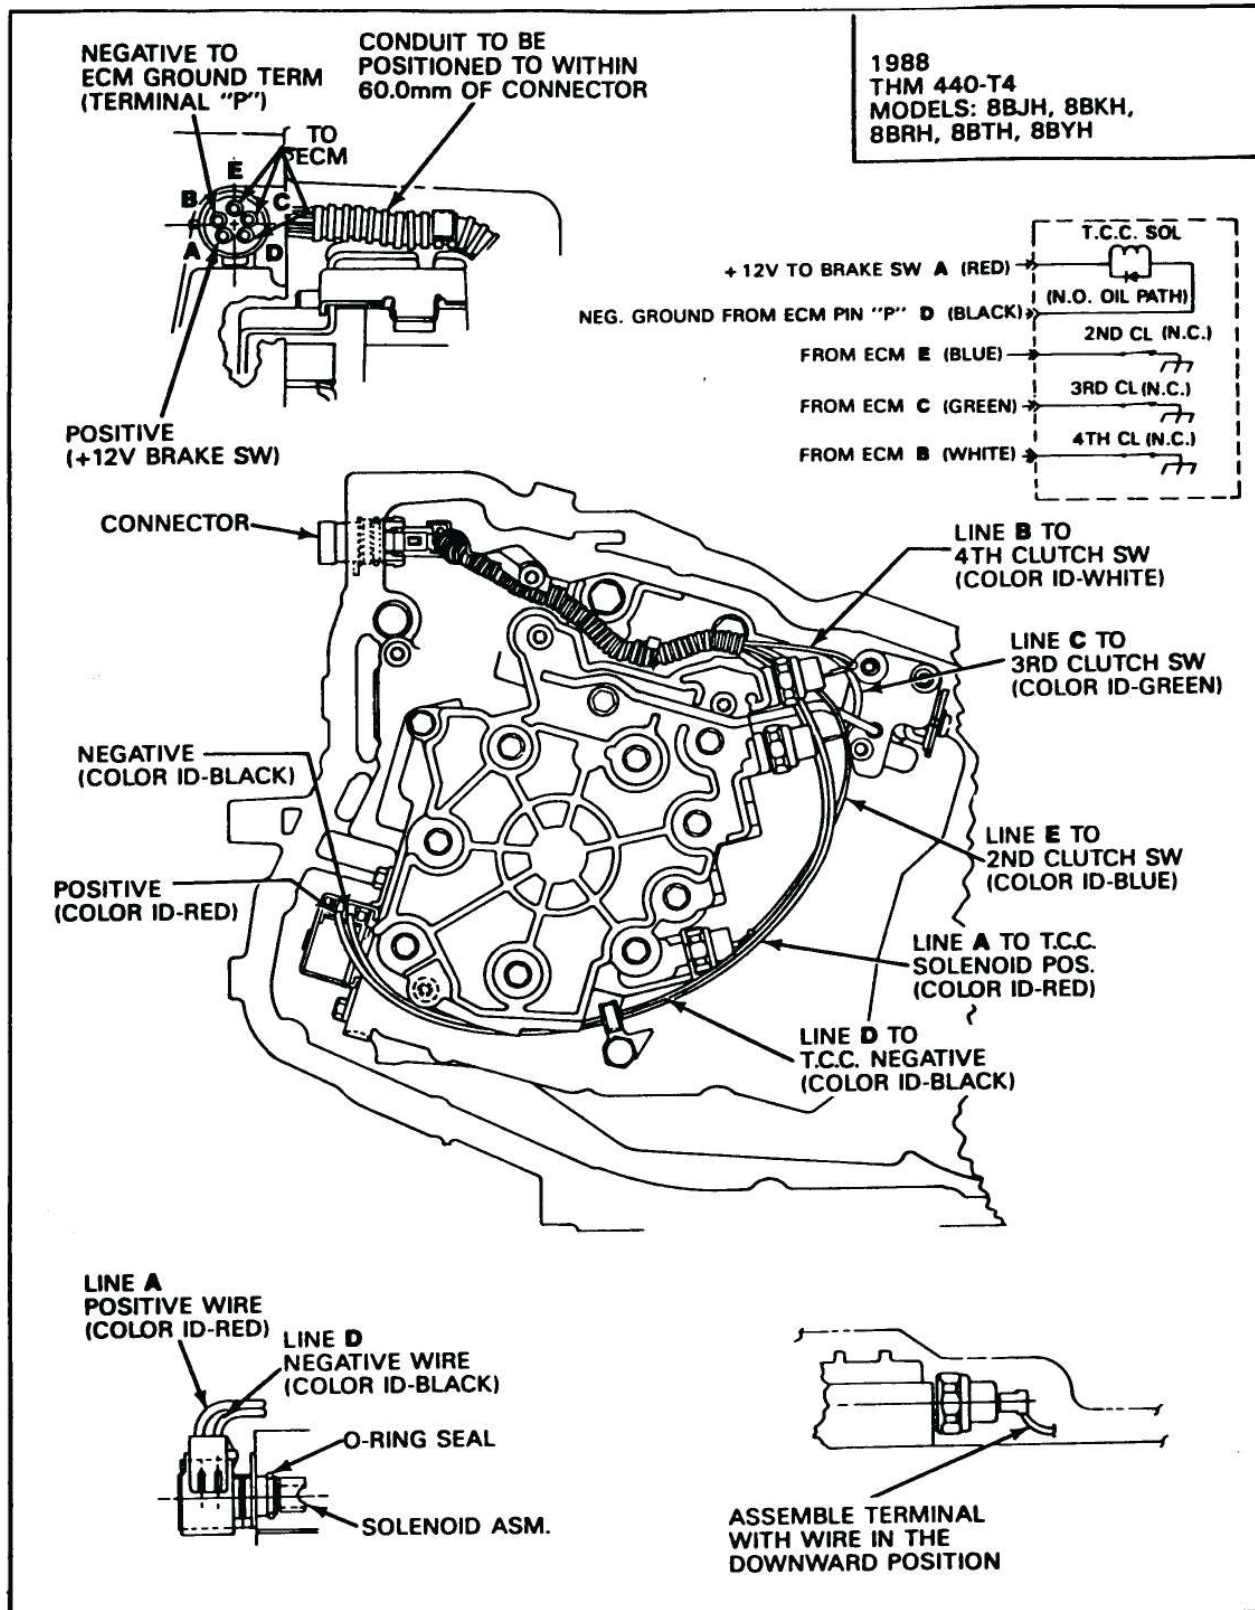

Figure 77
- (2) Valve Body - Extra hole drilled in valve body to carry 2nd clutch oil to pump body.
- (3) Case Connector - Now round black connector (Same as Cadillac), and "E" terminal now carries 2nd clutch signal wire (See Figure 77).
- (4) Transaxle Wiring Harness - Extra wire in harness for 2nd clutch signal to ECM (See Figure 77).
- (5) Vehicle Wiring Harness